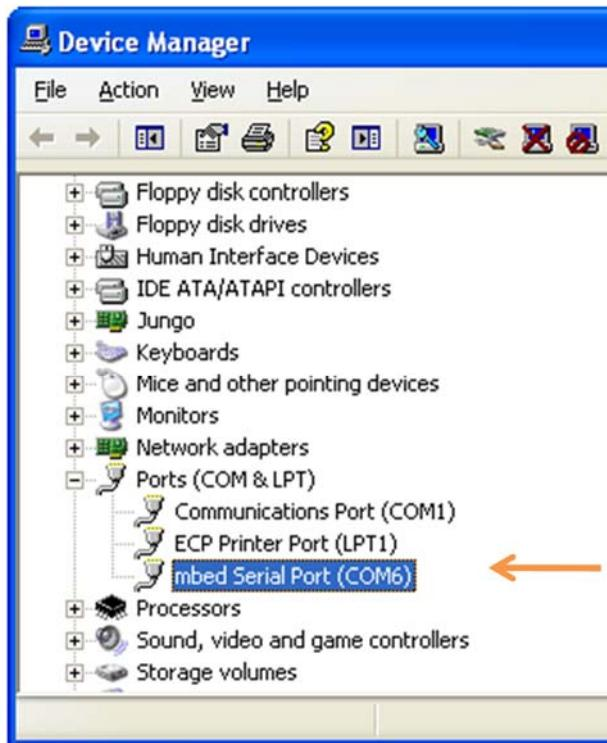

Figure 5. COM port associated with the LinkIt 7687 HDK
- In **Device Manager**, navigate to **Ports (COM & LPT)** (see Figure 5).
- A new **COM** device should appear under **Ports (COM & LPT) in Device Manager**, as shown in Figure 5. Note the **COMx** port number of the serial communication port, this information is needed to send command and receive logs from the COM port.
- 3) Select the COM port number that maps to the mbed serial port shown in Figure 5.